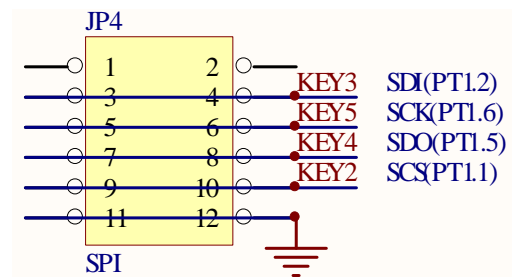

Figure 6
- ◆ JP4: SPI communication port, as shown in Figure 6.